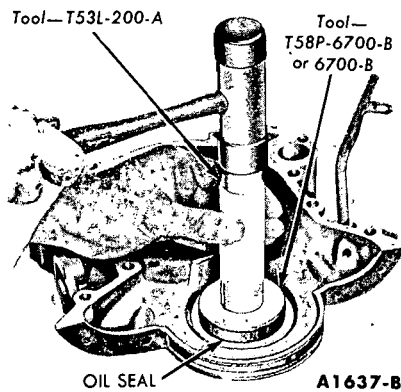

FIG. 40—Crankshaft Front Oil Seal Replacement
2. Coat a new seal with grease; then install the seal in the cover (Fig. 40). Drive the seal in until it is fully seated in the recess. Check the seal after installation to be sure the spring is properly positioned in the seal.